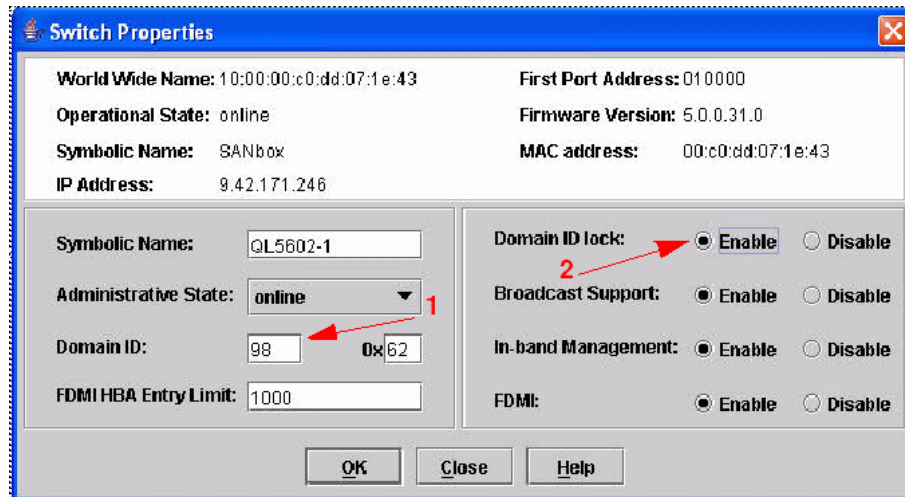

Figure 7-6 Switch Properties window
- From the Switch Properties dialog (Figure 7-6), enter a symbolic name for your switch. Enter a Unique Domain ID ranging from 97-127 (1). Click the **Enable** radio button next to Domain ID lock (2). In our example, we selected 98 for the DID. Click **OK** to continue.